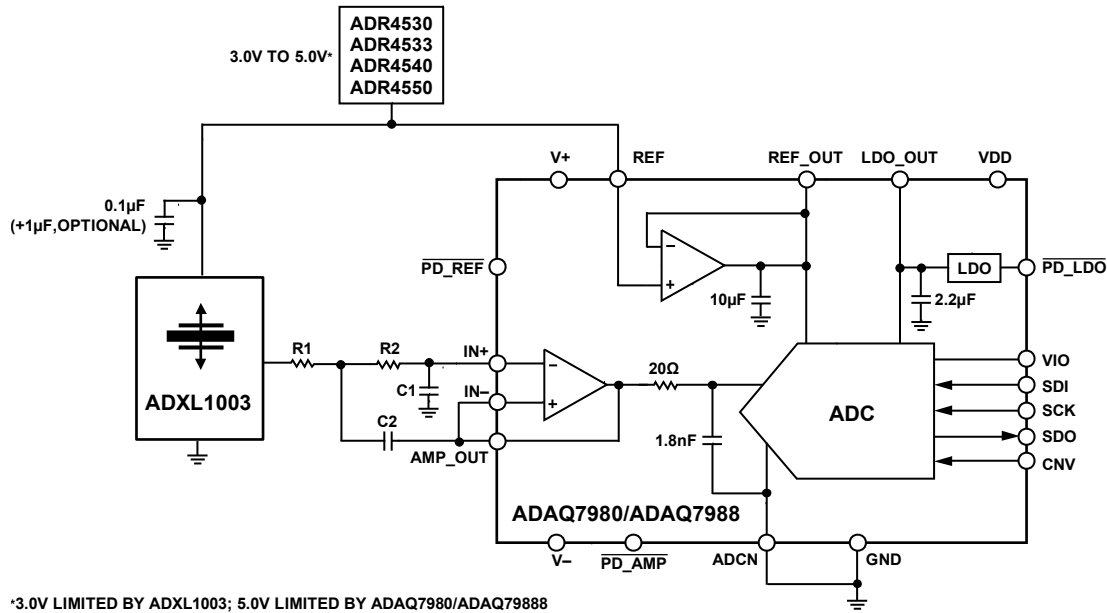

Figure 23. Application Circuit for the ADXL1003
See Figure 23 for an example of the interface, including components when measuring mechanical vibration from 0 kHz to 5 kHz. For a 5 kHz pass band, a single-pole resistor capacitor (RC) filter is acceptable. However, in some applications, use of a more aggressive filter and lower sample ADC sample rate is possible. The following components are recommended to form a 5 kHz low-pass RC filter at the output of the ADXL1003 when interfacing to an ADC, such as the ADAQ7980: $R1 = 5\text{ k}\Omega$, $C1 = 5\text{ nF}$, $R2 = 0\text{ }\Omega$, and $C2$ are not required. A minimum ADC sample rate of 20 kHz is recommended to avoid aliasing. When using sampling rates less than the resonance frequency (typically 28 kHz), be aware and account for the effective gain at the output of the sensor due to the resonance to ensure out of band signals are properly attenuated and do not alias into the band.
See Figure 23 for an example of the interface, including components when measuring mechanical vibration from 0 kHz to 10 kHz. The following components are recommended to form a two-pole RC filter at the output of the ADXL1003: $R1 = 5\text{ k}\Omega$, $C1 = 2\text{ nF}$, $R2 = 5\text{ k}\Omega$, and $C2 = 2\text{ nF}$. A minimum ADC sample rate of 200 kHz is recommended to avoid aliasing.